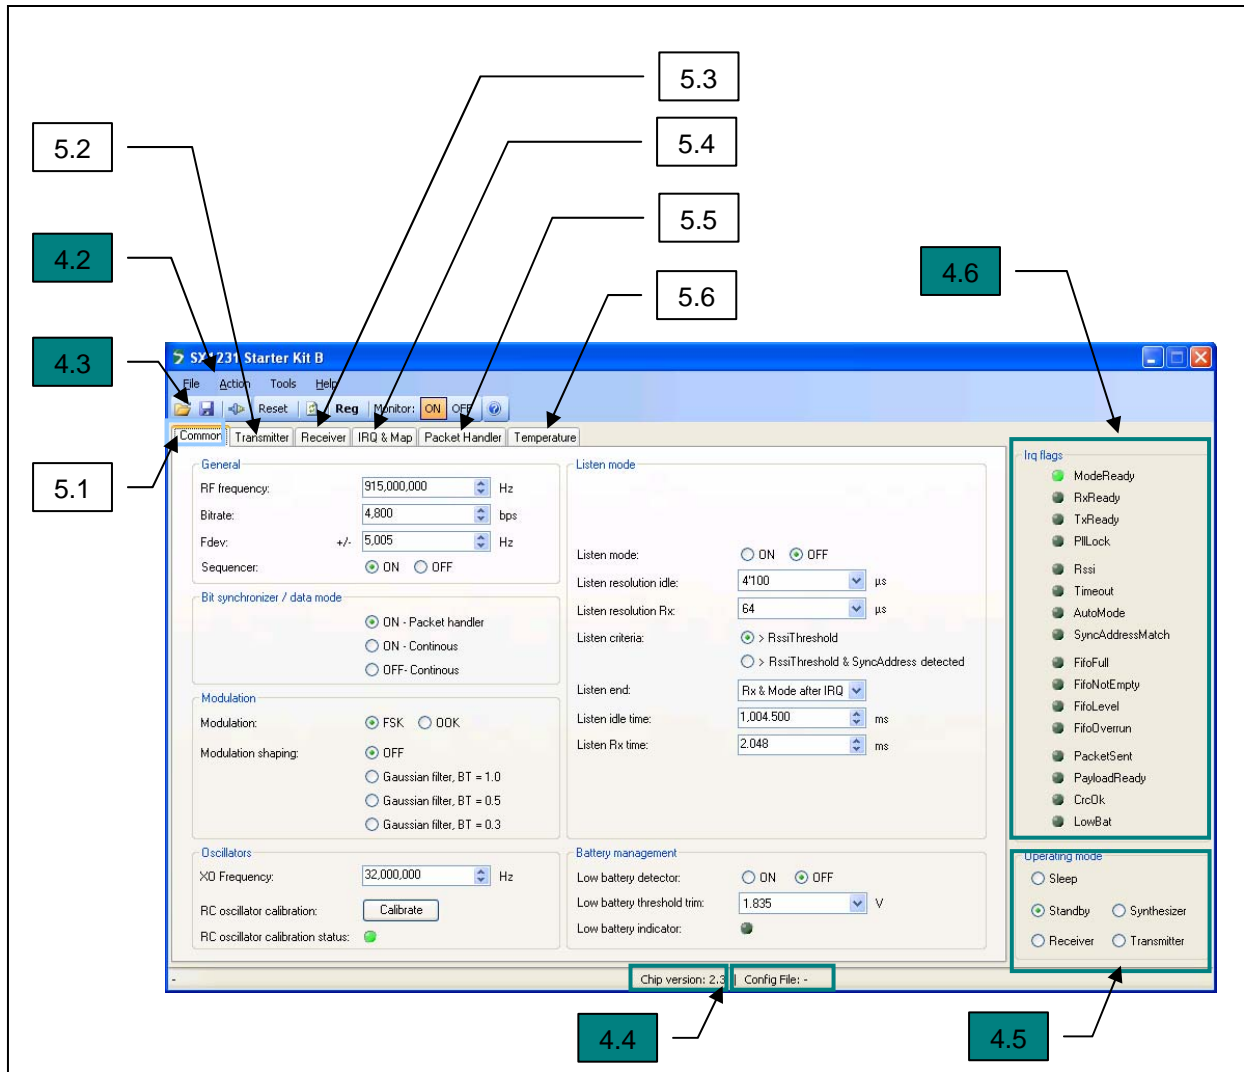

Figure 3: SX1231SKB GUI Overview
4. Once connected the SX1231SKB shows the default configuration of the SX1231 register settings upon power-up, as illustrated in Figure 3. If the EVK is not connected, the GUI screen is grayed out and an error message is displayed in the bottom left hand corner of the status bar.
Figure 3 illustrates the SX1231SKB graphical user interface (GUI). Each of the numbered captions corresponds to a proceeding chapter within the sections which corresponds to the description of that GUI feature.